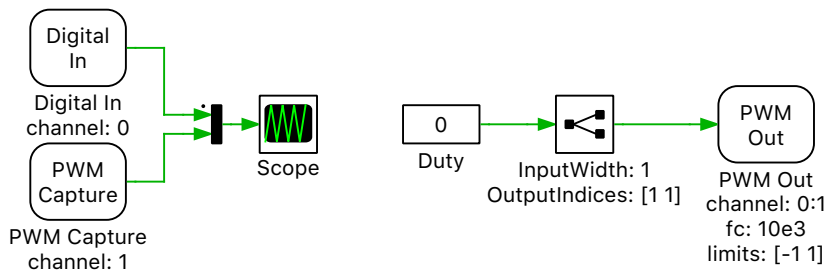

Figure 6: Comparing the Digital In and PWM Capture components
- 1 Create a new PLECS model and build the circuit shown in Figure 6. The circuit consists of a Digital In component assigned to channel 0 and a PWM Capture component assigned to channel 1. The output of the Digital In and PWM Capture blocks are connected to a Signal Multiplexer component and then a Scope. The PWM Out block uses digital outputs 0 and 1, with all other PWM Out parameters remaining at the default values of a 10 kHz carrier frequency and carrier limits of [-1,1]. A Constant representing the PWM duty is connected to the PWM Out block via a Signal Selector so that both PWM outputs have the same duty and settings. Add the duty cycle Constant to the parameter inlining list. Set the discretization step size in the **Coder Options** window to 10e-6 s.